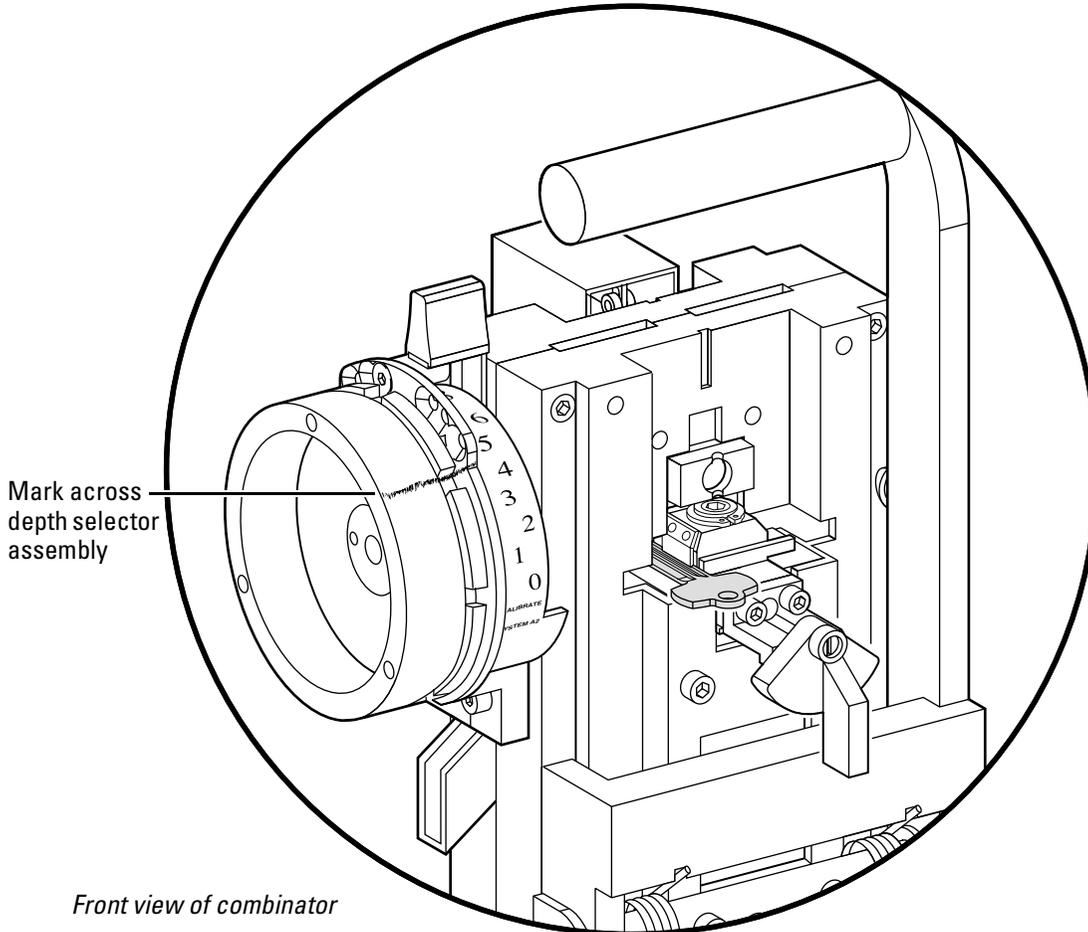

Figure 3.17 Marking the depth selector assembly
1. With a lead or grease pencil, mark a straight line across the depth selector assembly. See Figure 3.17.
1. With a lead or grease pencil, make a mark across the depth selector assembly. See Figure 3.17.